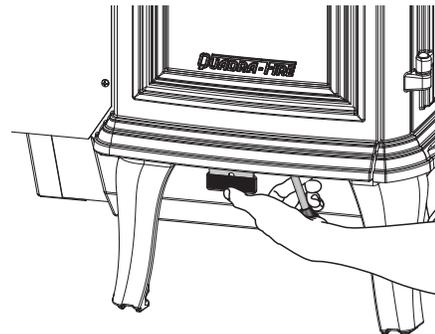

Figure 19.1
1. The appliance and ashes must be completely cooled down before using the Ash Removal System. Reach down and locate the ash removal door handle under the left side of the appliance in the center. Grasp the handle with your fingers and place your thumb on the latch release (Figure 19.1). Press the latch release inward. Keep the latch release pressed in and lower the handle gently. Take your thumb off the release once the handle is clear of the latch and guide the handle back until it stops.